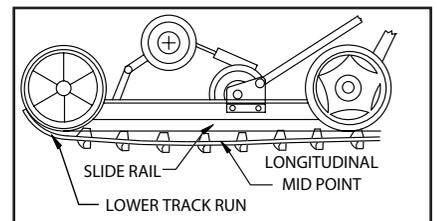
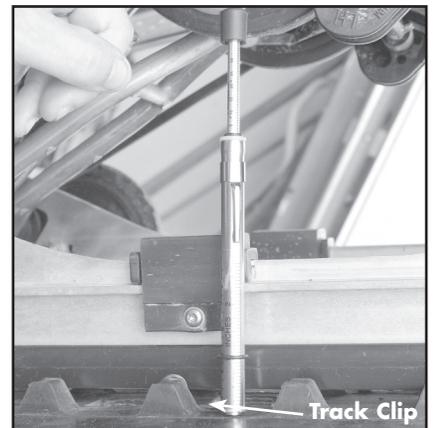

Figure 2
Figure 3
- a. On the inside surface of the lower track run and at the longitudinal mid-point (figure 2), place the "inches of span" end of the track tension tool adjacent the top surface of a track clip. (figure 3)